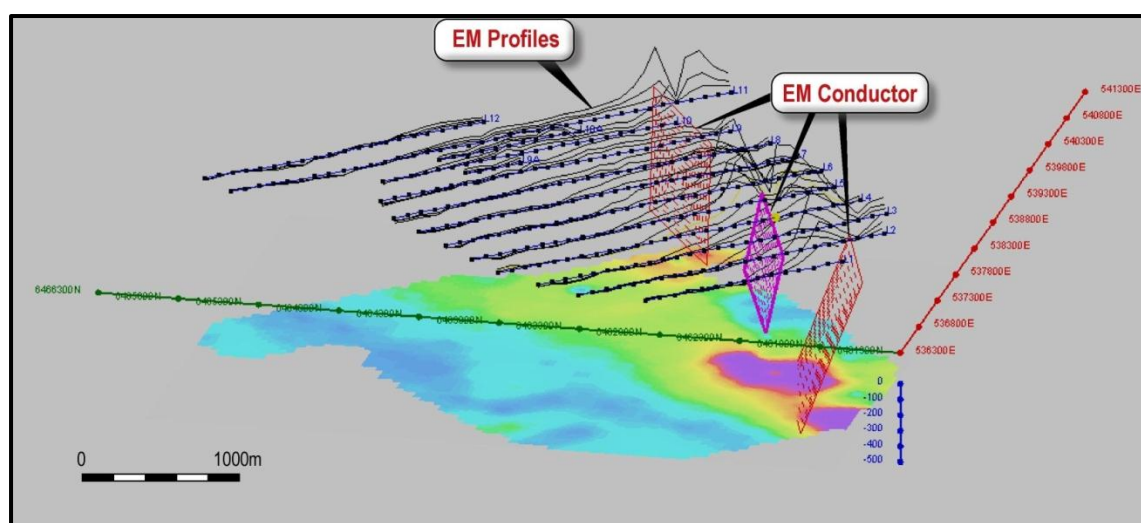

Figure 6. Preliminary model of the 3 processed conductors ZC1, ZC2 & ZC3.
- ZC1, ZC2 and ZC3 are of significant conductance and are situated at reasonably shallow depth to top (~100-200m) which be a high priority for the next stage of drilling. See Figure 6.